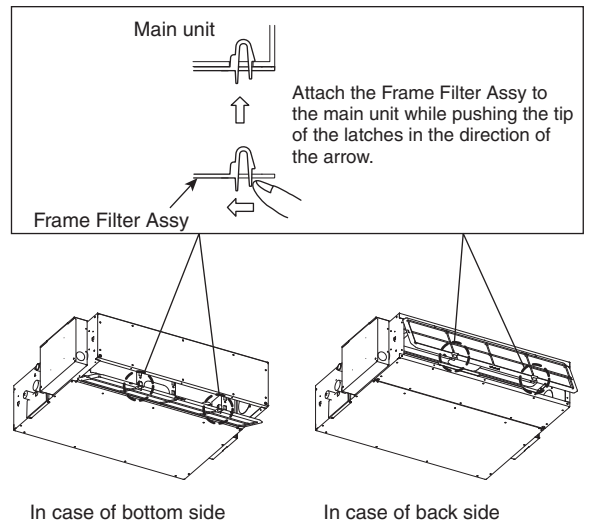

Fig. 3-57-3
- (3) Attach the frame filter assy (supplied) in the manner shown in the diagram. (Fig. 3-57-3)